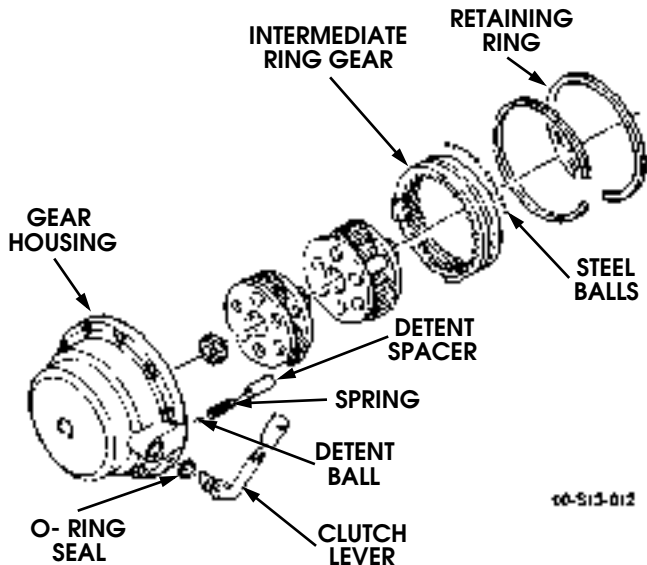

Figure 13-15: Intermediate Ring Gear and Gear Housing
1. Position 85 to 87 steel balls in groove of intermediate ring gear and install intermediate ring gear in gear housing (Figure 13-15).